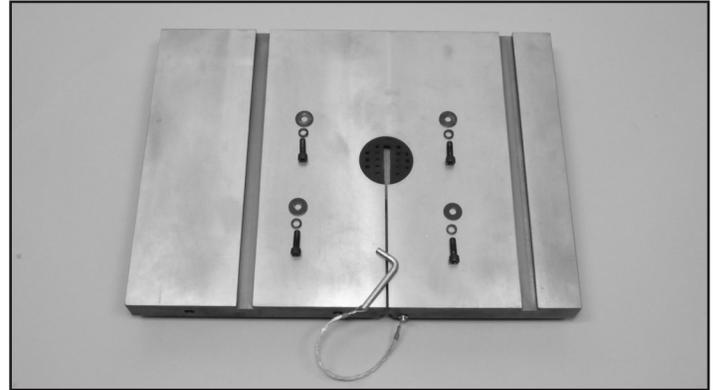

FIGURE 1
1. Remove the Table Leveling Pin (Part #4B) from the front of the table. This metal pin keeps the two sides of the table level at the slot area. Fig. 1.